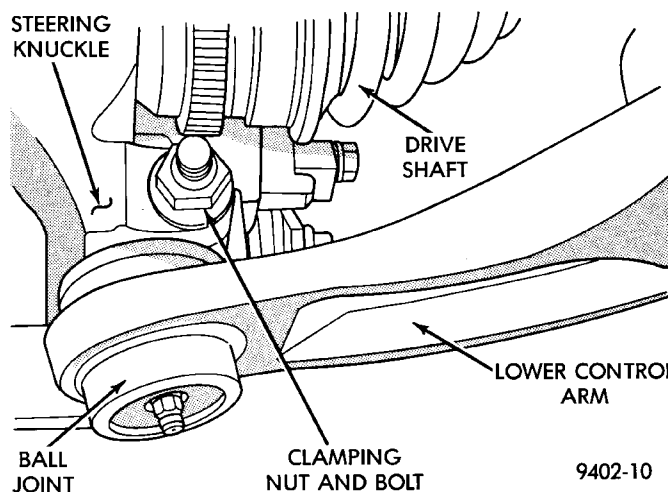
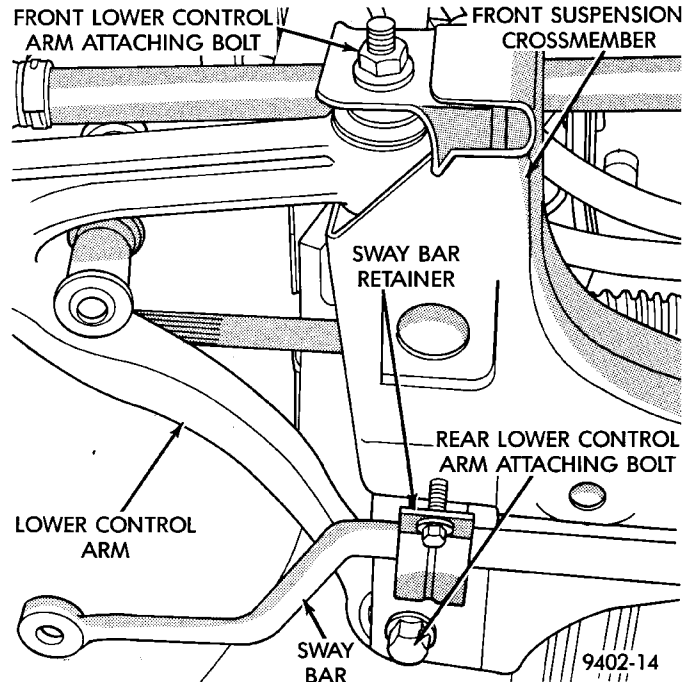

Fig. 32 Control Arm To Steering Knuckle Attachment
Fig. 36 Lower Control Arm Attaching Bolts
(1) Raise vehicle on jack stands or centered on a frame contact type hoist. See Hoisting in the Lubrication and Maintenance section of this manual for the required lifting procedure to be used. Remove wheel and tire assembly from side of vehicle requiring service to lower control arm.
(2) Remove the steering knuckle to ball joint ball stud, clamping nut and bolt (Fig. 32).
(6) Remove front lower control arm bushing to crossmember attaching nut and bolt (Fig. 36). Remove rear lower control arm to crossmember and frame rail attaching bolt (Fig. 36). Then remove lower control arm from crossmember.
(1) Position lower control arm into front crossmember. Then install rear lower control arm to crossmember and frame rail attaching bolt (Fig. 36). **Do not tighten rear attaching bolt at this time**. Then install front lower control arm to crossmember nut and bolt (Fig. 36).
(2) Torque front lower control arm nut and bolt to 163 N·m (120 ft. lbs.), first and then torque rear lower control arm attaching bolt to same torque specification.
(3) Install ball joint stud into steering knuckle. Then install steering knuckle to ball joint stud clamping bolt and nut (Fig. 32). Torque clamping bolt to 95 N·m (70 ft. lbs.).